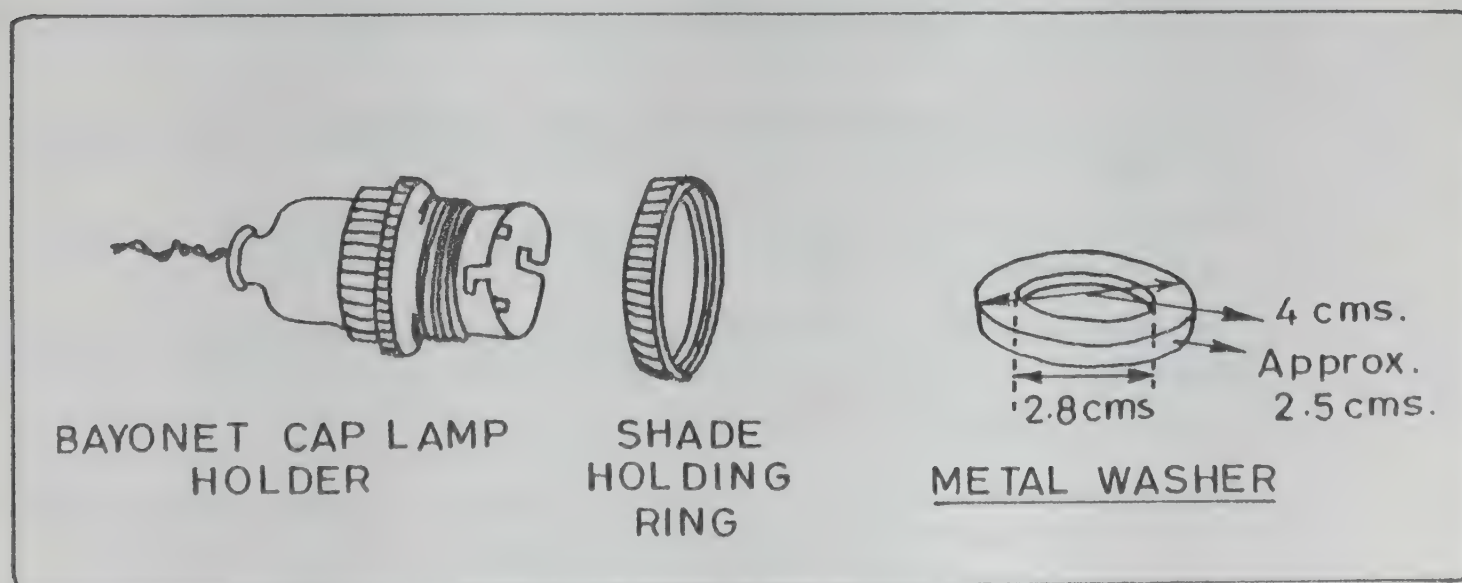

FIG. 10
- iv) After removing the brass ring meant for holding the shade, insert one of the two washers* (see Fig 10),